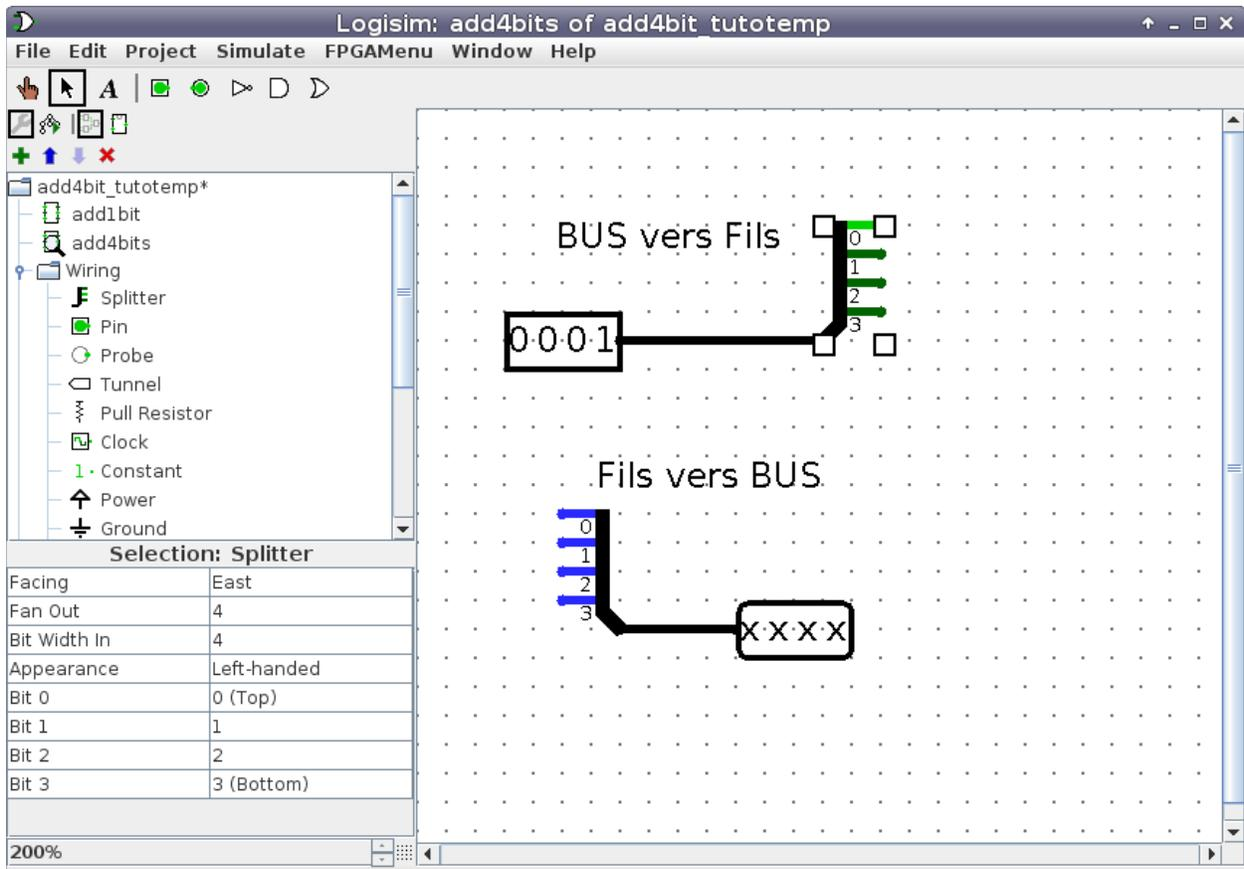

Figure 7: Example splitters
6. When you pull a wire from one of these inputs, it's not a simple signal, but a 4-bit bus. To connect the inputs to the inputs of the 1-bit adders, we will have to separate the different outputs of the bus in order to process them one by one. The *splitter* wiring element allows such conversions in both directions: a 4-bit bus to a 4 wires, and 4 wires to a 4-bit bus. See Figure 7.